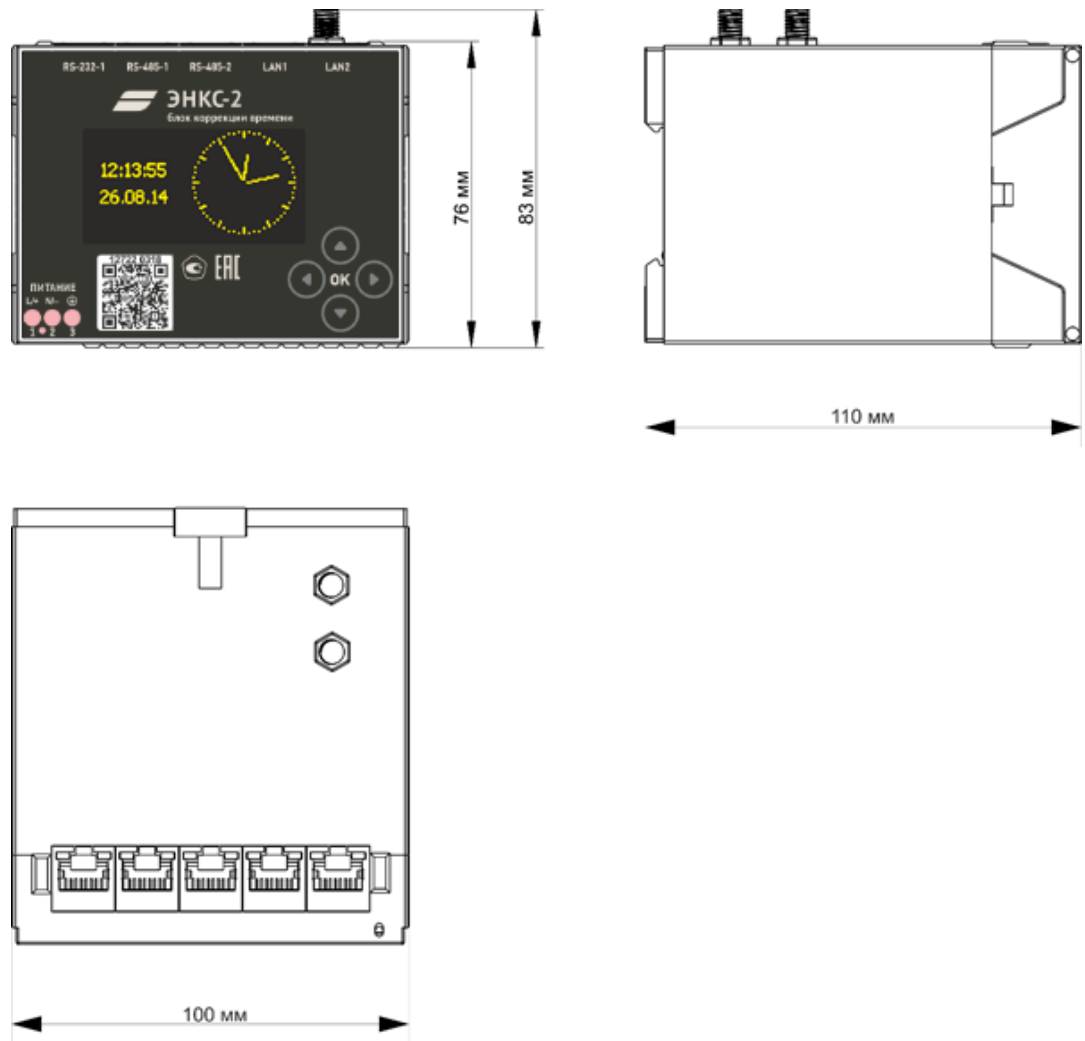

Figure 1.2. Dimensions of ENCS-2
1.3.2 The ENCS-2 dimensions are shown on fig. 1.2.